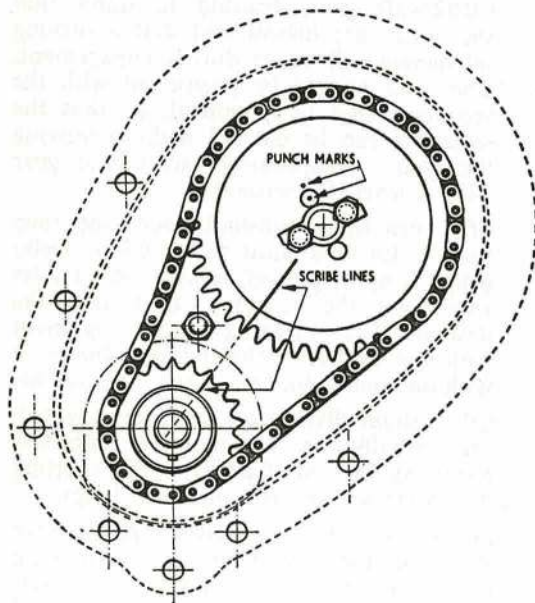

Fig. 15. VALVE TIMING MARKS
- (a) Set the engine with Nos. 1 and 4 pistons at T.D.C.—the fan pulley and crankshaft sprocket keyways will be pointing vertically downwards (Fig. 15).